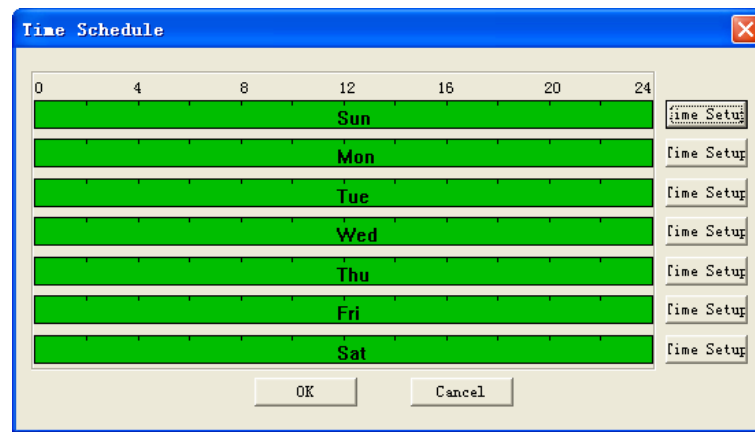
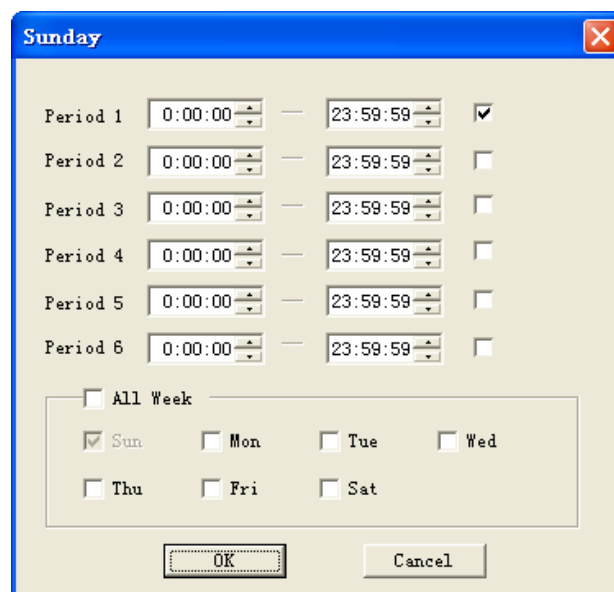

Figure 7-44
Figure 7-45
- ✧ Period: Here is for you to set record period. Click set button, you can see an interface is shown as in Figure 7-44. In Figure 7-44, click time set button, you can see an interface is shown as in Figure 7-45. Here you can set time period.